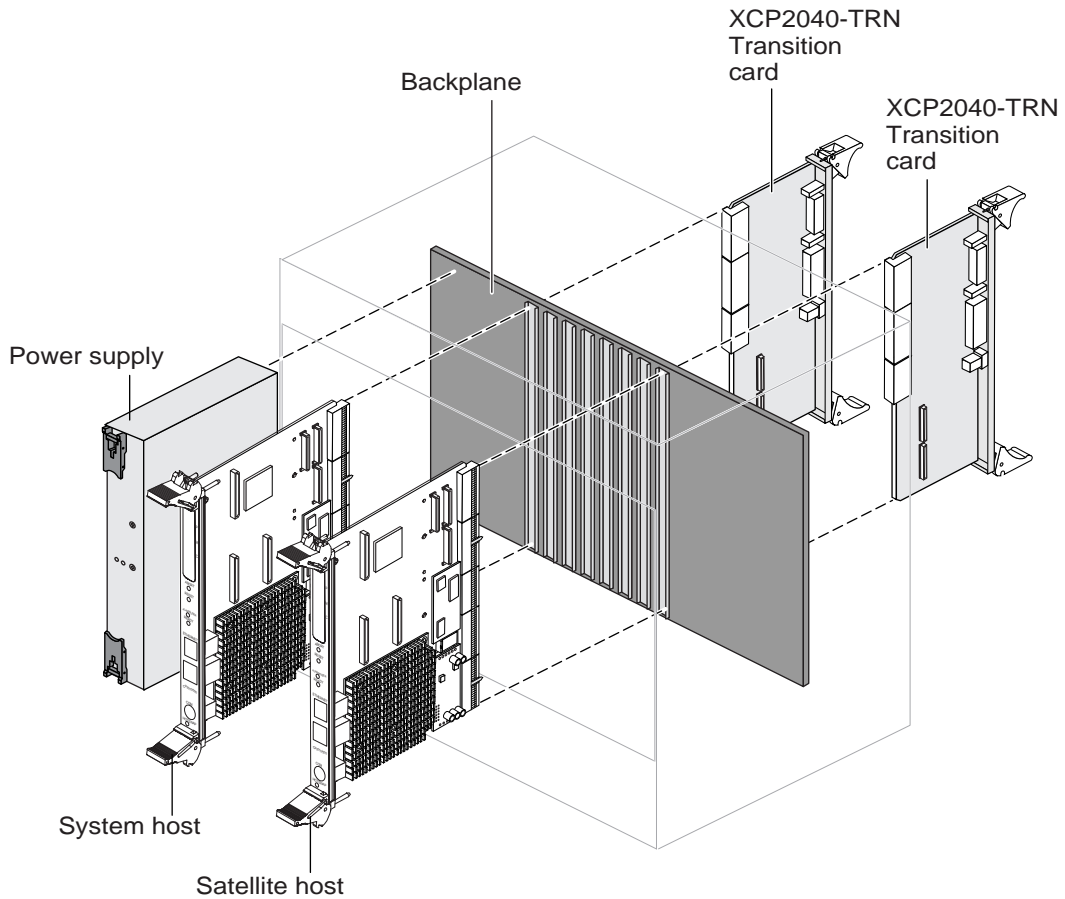
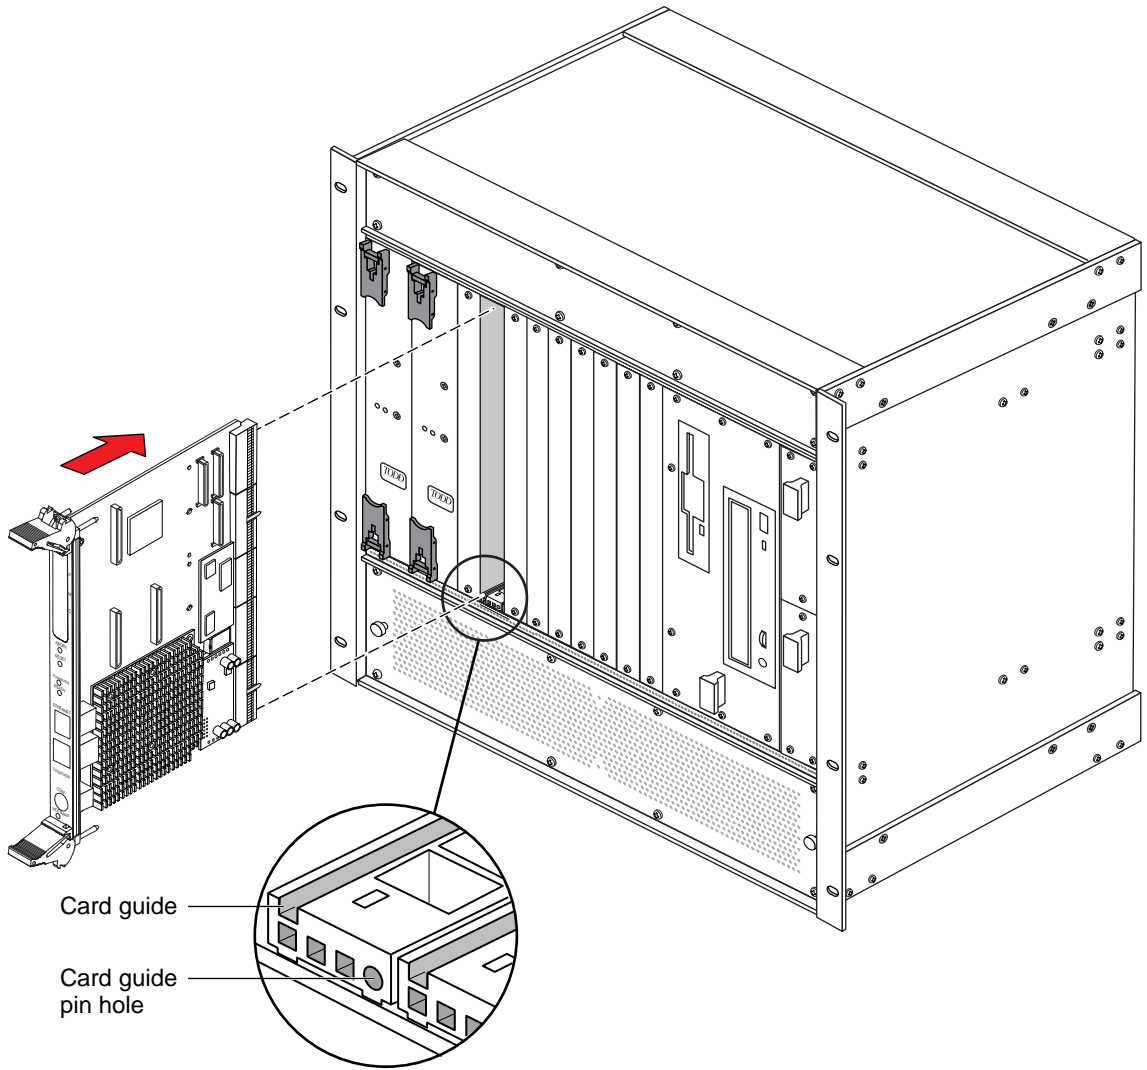

FIGURE 5-7 Netra CP2040 System Interface Using Two CP2040 Boards (one system controller board and other satellite board) and Two Transition Cards
FIGURE 5-8 Netra CP2040 Installation (close-up view)
A number of CompactPCI chassis enclosures are available that come with an internal power supply and fan. FIGURE 5-7 shows two Netra CP2040 boards (system host and satellite host) being installed in a cPCI chassis.
3. Slide the Netra CP2040 board into the appropriate slot into the corresponding top and bottom mounting rails and towards the backplane while gently keeping the board handles pushed inwards (see FIGURE 5-7 and FIGURE 5-8) and pushing the board into the chassis.